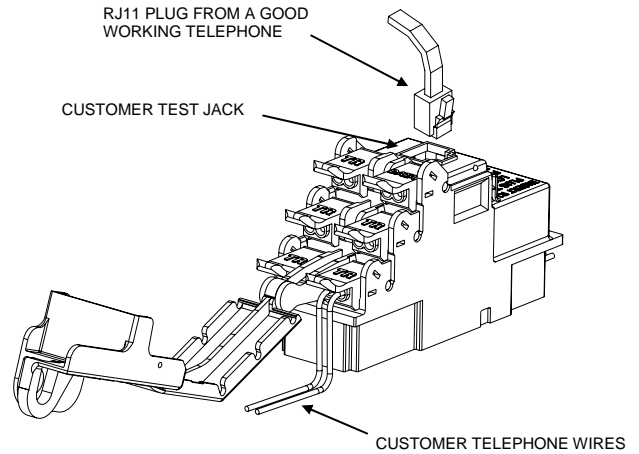

Figure 4
- 4.2.2 Using a working telephone, insert telephone RJ-11 plug into customer test jack (see Figure 4).